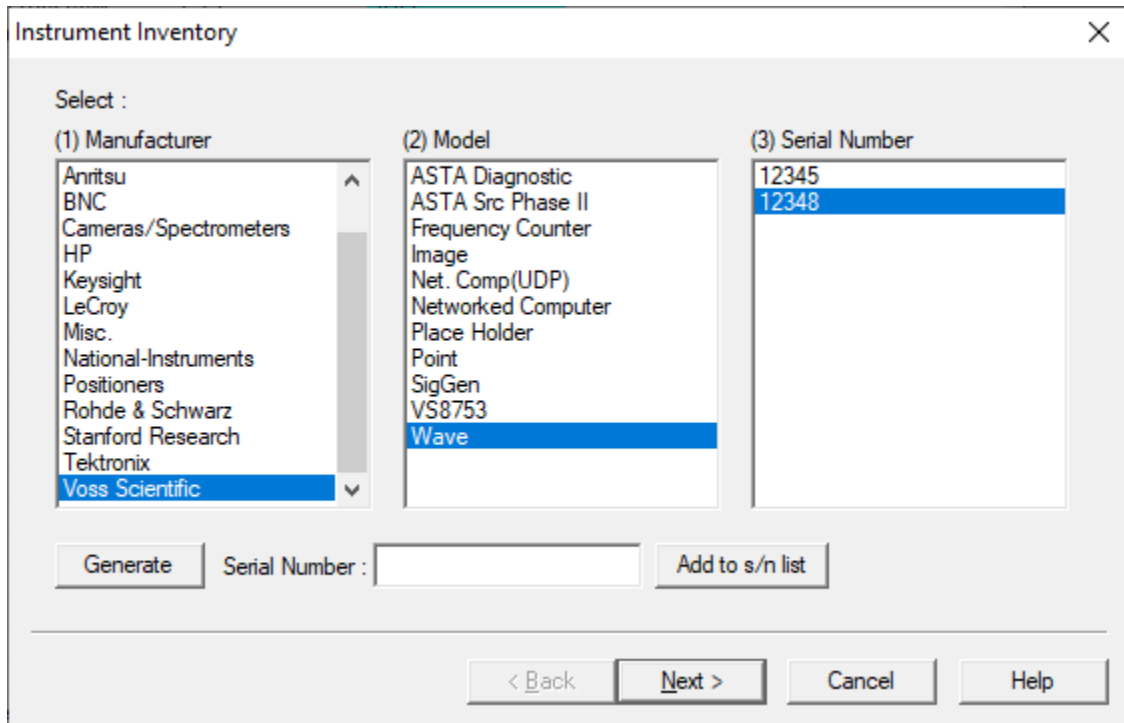

Figure 4-3 - Database Inventory Dialog
2. The dialog of Figure 4-3 appears. The lists that appear under Manufacturer and Model will depend on the drivers allowed by the installed DAAAC keys. The list under Serial Number will depend on the selected items under Manufacturer and Model and instruments that have already been added to the inventory.
7. Select an instrument, by serial number, from the Serial Number control in Figure 4-3.